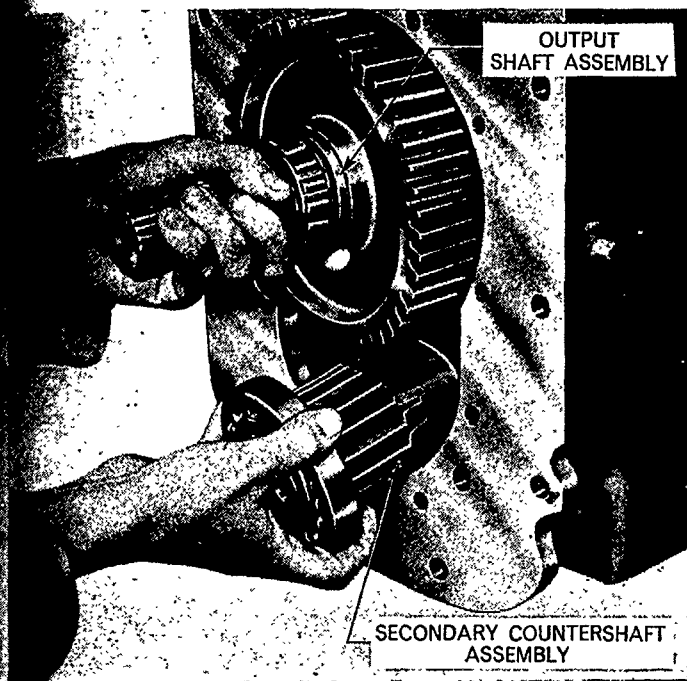

Figure 28
4. Partially withdraw the secondary countershaft until the front bearing is out of its location. Rest the assembly on the bottom of the rear compartment, and withdraw the output shaft immediately above it, Figure 28. The secondary countershaft can then be lifted out.